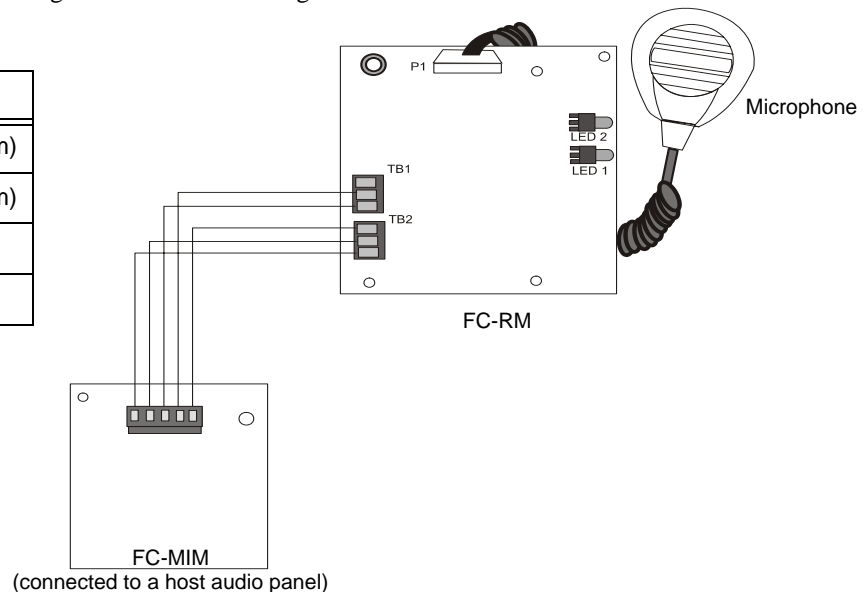

Figure 7: FC-MIM Wiring
The FC-RM is powered by the host audio panel via the FC-MIM. The FC-MIM supplies +24 VDC to the FC-RM via the PWR (1) and GND (2) terminals. The FC-MIM also supplies Earth and analog grounds to the FC-RM. Refer to Figure 7.
The FC-RM can be remotely connected to the host audio panel with the FC-MIM. Refer to the following table for wiring distance limitations. It can be connected with a negligible amount of noise and distortion when the distances shown in the table are not exceeded. The wiring configuration is shown in Figure 7.